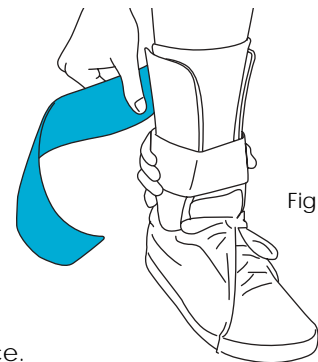

Fig. 5
- Tighten straps from bottom to top with other hand (Fig. 5).